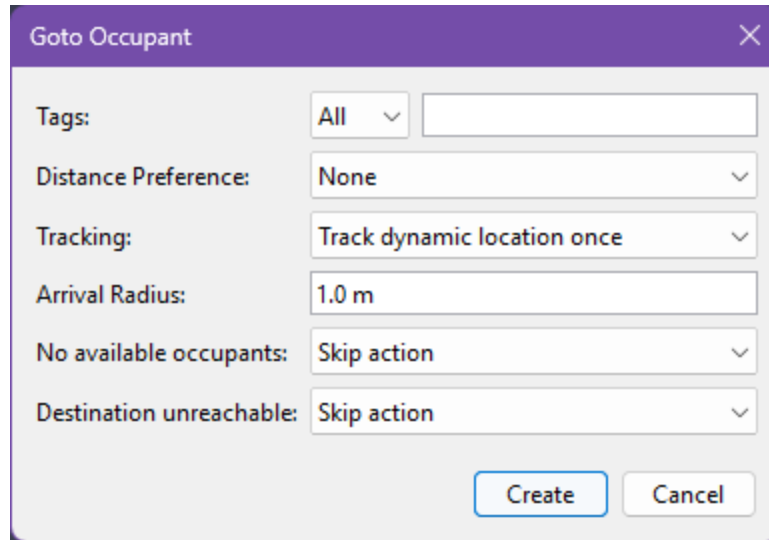

Figure 121. Goto Occupant Dialog
2. Enter the desired parameters in the **Goto Occupant** dialog as described below and shown in Figure 121.